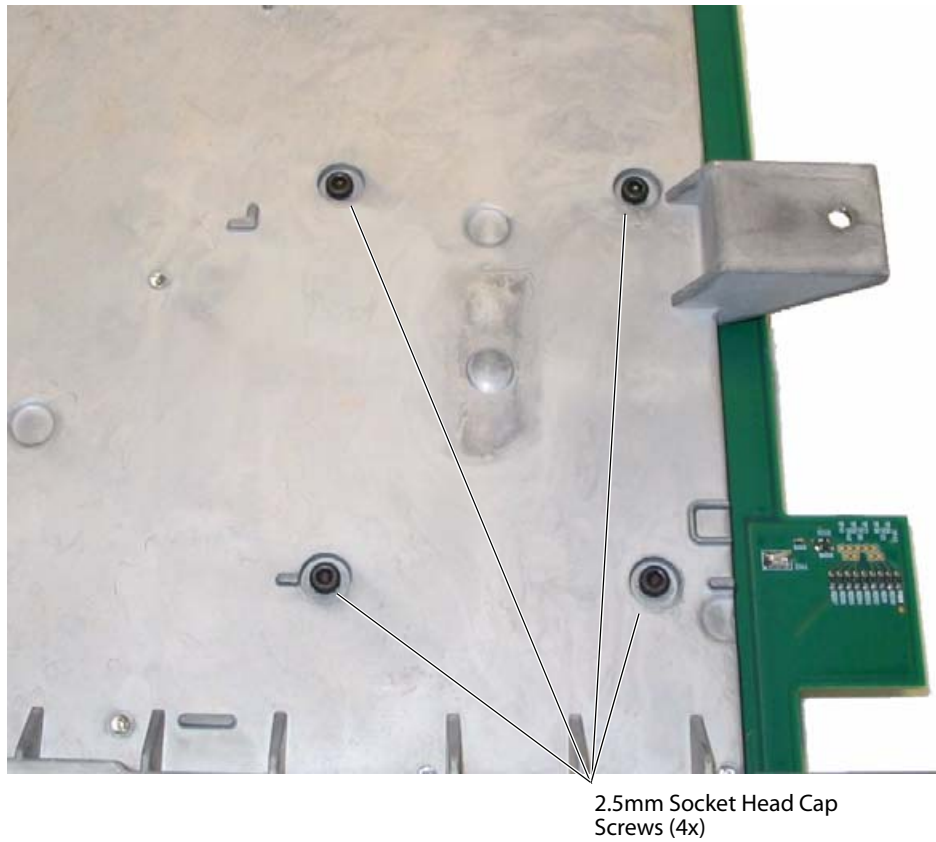

Figure 4.21 Nest Frame Assembly Socket Head Cap Screws
- 7 Turn the Superplug Assembly over to expose the Nest Frame Cap Screws as shown in Figure 4.21.
- 8 Remove the 4 Socket Head Cap Screw as shown in Figure 4.21. This releases the Nest Frame and will allow the Main PCBA to be removed from the Superplug Assembly.